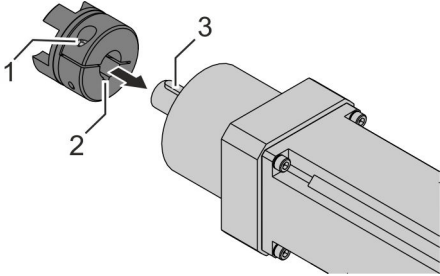

Fig. 32: Assembling the clamping hub
4. ➤ Slide the coupling's clamping hub (Fig. 32/2) onto the motor's motor shaft (Fig. 32/3).
5. ➤ Tighten the screw (Fig. 32/1) on the clamping hub: